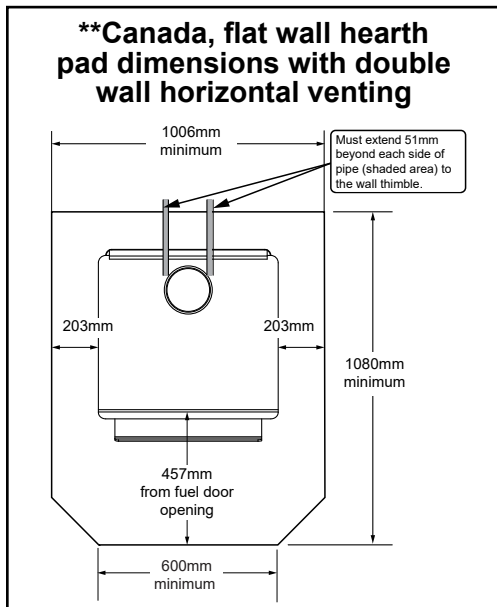

Figure 9.2 - **These dimensions will vary depending installation.
In Canada, similar floor protection must be provided 18 inches (457mm) in front and 8 inches (203mm) from the sides and rear of the appliance unless the hearth pad is placed against the wall (**Figure 9.2**). Then the clearance may be reduced using double wall pipe and the Clearance to Combustibles table listed on page 10.
***Exception:** Non-combustible floor protector must extend beneath the flue pipe when installed with horizontal venting and extend 2 inches (51mm) beyond each side (**Figure 9.2**).